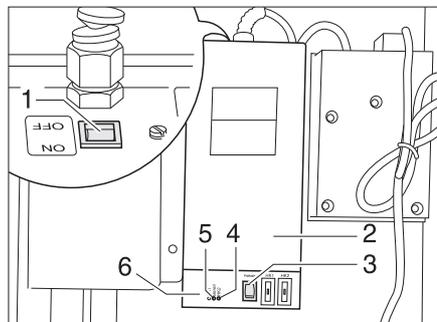

Fig. 119 Transformer with control unit
The 240 VAC/12 VDC transformer (Fig. 119,2) is installed in the wardrobe or in the storage area beneath the seating group, depending on the model.
- The indicator lamp (Fig. 119,5) lights up in green: Regulation in operation
- The indicator lamps (Fig. 119,4 and 6) light up in red: Waste water pipes are warmed
A test button (Fig. 119,3) is integrated in the housing with which the control unit can be operated for a short time. By pressing the test button, the function of the warming unit can be tested, even if the ambient temperature is above 5 °C.
- Turn the switch (Fig. 119,1) on the transformer (Fig. 119,2) to "ON".
- Turn the switch (Fig. 119,1) on the transformer (Fig. 119,2) to "OFF".